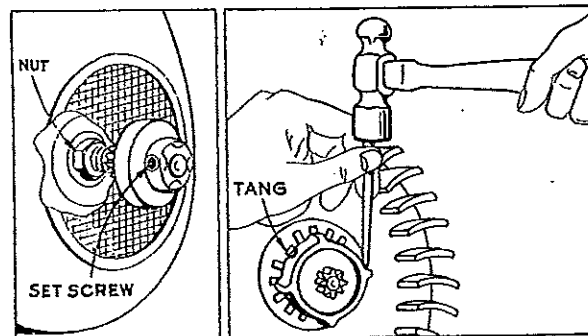

Fig. 2
**B. Hand Lever and Foot Starter Motors.** On models with die cast clutch housing and starter pinion on side toward motor, remove starter assembly, loosen set screw and slip clutch housing from shaft, remove blower housing and proceed to remove flywheel as in "A." See Fig. 2, Plate No. 6.